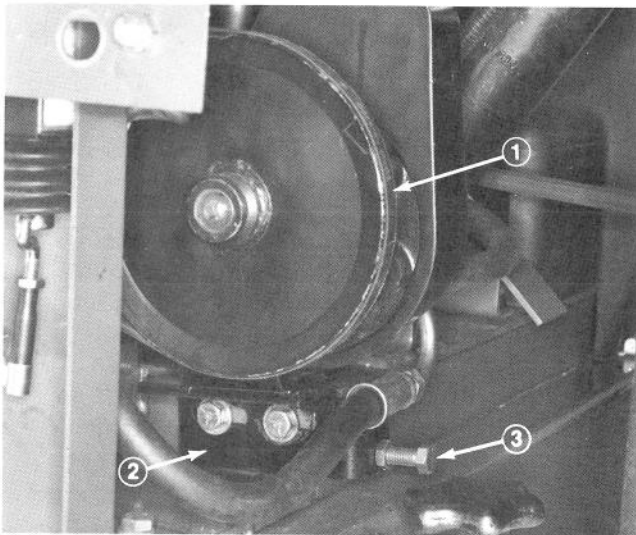

Figure 37
1. The belt tension on the hydraulic pump (Fig. 37) must have a maximum deflection of 5/32 of an inch with a 2 to 3 pound load applied.
- B. To adjust tension, loosen (2) capscrews securing pump support bracket to chassis (Fig. 37).